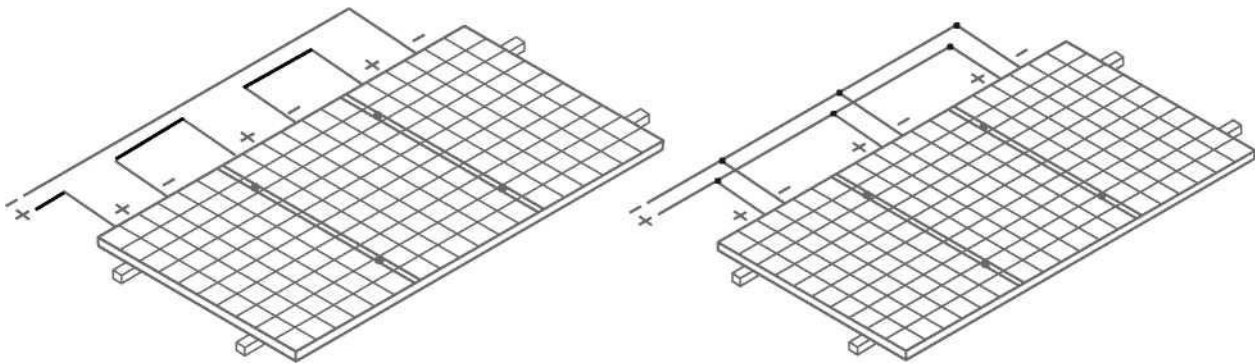

Figure6 Connection in Series Figure7 Connection in parallel
- It is not allowed to use the Modules in different models in the same solar photovoltaic system. When the Modules are connected in series, the voltage of every string shall not be higher than the maximum voltage of the system (as shown in Figure 6). Reference equation of the maximum number of the Modules in serial connection: maximum system voltage of the module/ (1.25* open-circuit voltage).